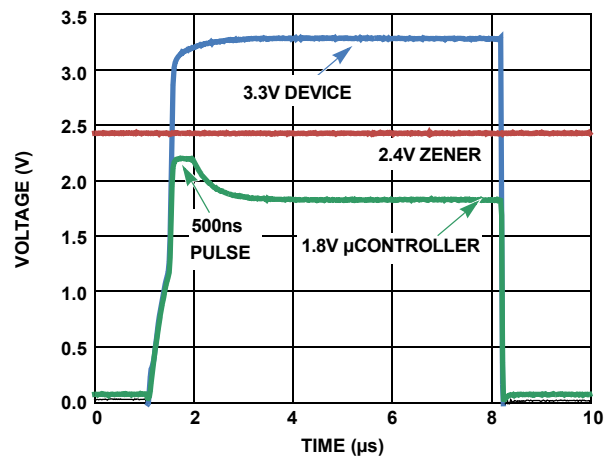

FIGURE 2. 1.8V TO 3.3V LEVEL SHIFTING
3. Providing protection on the 1.8V microcontroller against the potential overcurrent caused by the rise time accelerators on the buffer. A critical concern is the rise time accelerator from the I2C buffer damaging the 1.8V microcontroller. ESD diodes internal to the microcontroller are forward biased at ~0.5V above its supply rail. While the rise time accelerators drive the bus to 2.4V, they are active for only ~500ns (see Figure 2). If overcurrent is a concern, a series resistor on the I2C SDA (Data) and SCL (Clock) lines of 10Ω limits the current to protect the microcontroller. Assuming a worse case 0V diode conduction, the peak current is limited by the capability of the rise time accelerator circuit on the buffer, in this case 5mA. From a voltage stand-point a 1.8V to 3.3V microcontroller has an absolute maximum voltage in the 3.6V range, much less than the 2.4V from the accelerator drive.